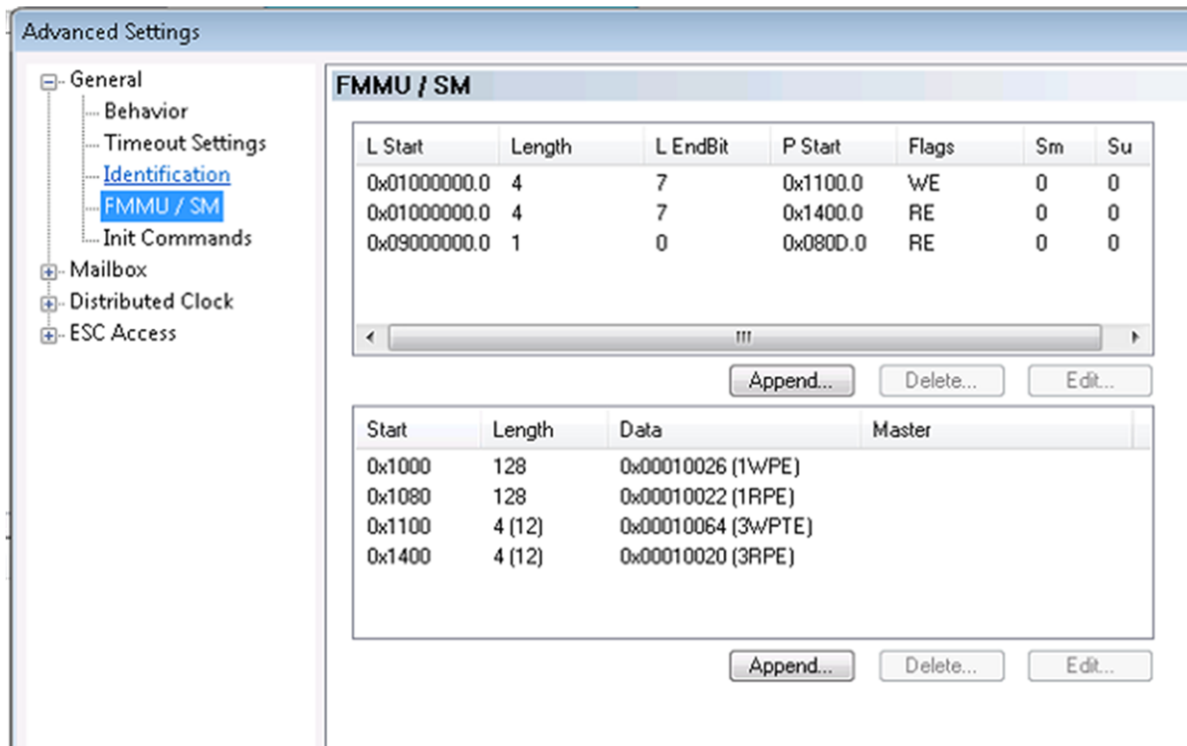

Figure 10. EtherCAT FMMU/SM Configuration
2. Workaround 2: Use the LRW datagram to access process data, input and output overlaid on the same logical address range (TwinCAT usage). This is the optimal configuration and TI highly recommends this workaround. Figure 10 demonstrates that the FMMU0/SM2 and FMMU1/SM3 (physical address 0x1100/0x1400) are mapped to the same logic address 0x01000000.